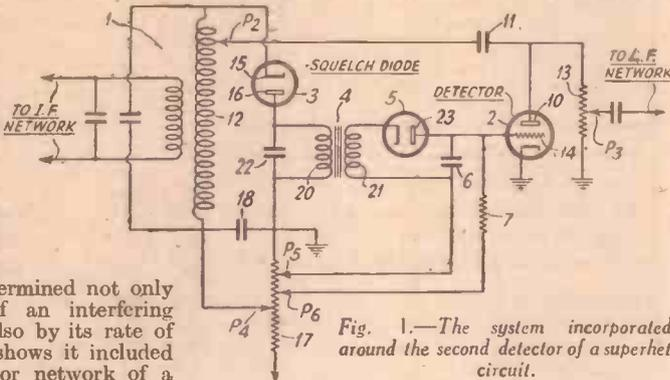
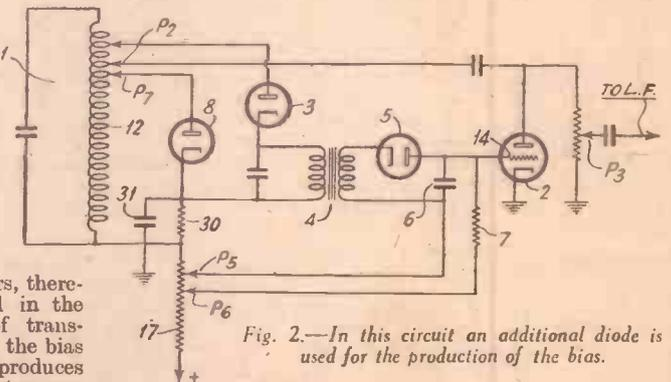

Fig. 1.—The system incorporated around the second detector of a superhet circuit.
Fig. 2.—In this circuit an additional diode is used for the production of the bias.
Fig. 2 shows an arrangement similar to that of Fig. 1, except that the normal bias
on diode (3) is produced by a further diode rectifier (8). The amount of this bias, as compared to the intermediate frequency voltage on diode (3), may be adjusted by the position of the tap (P7) on coil (12) of circuit (1) to which rectifier (8) is connected. For a given signal level the action of the circuit of Fig. 2 is the same as that of Fig. 1, and the only difference is that the bias on diode (3) adjusts itself automatically in accordance with the carrier voltage of the desired signal. The cathode of diode (3) is connected to the cathode end of resistor (30) arranged between the cathode of diode (8) and earth, a large condenser (31) being shunted across resistor (30). This system has been developed by the Radio Corporation of America.